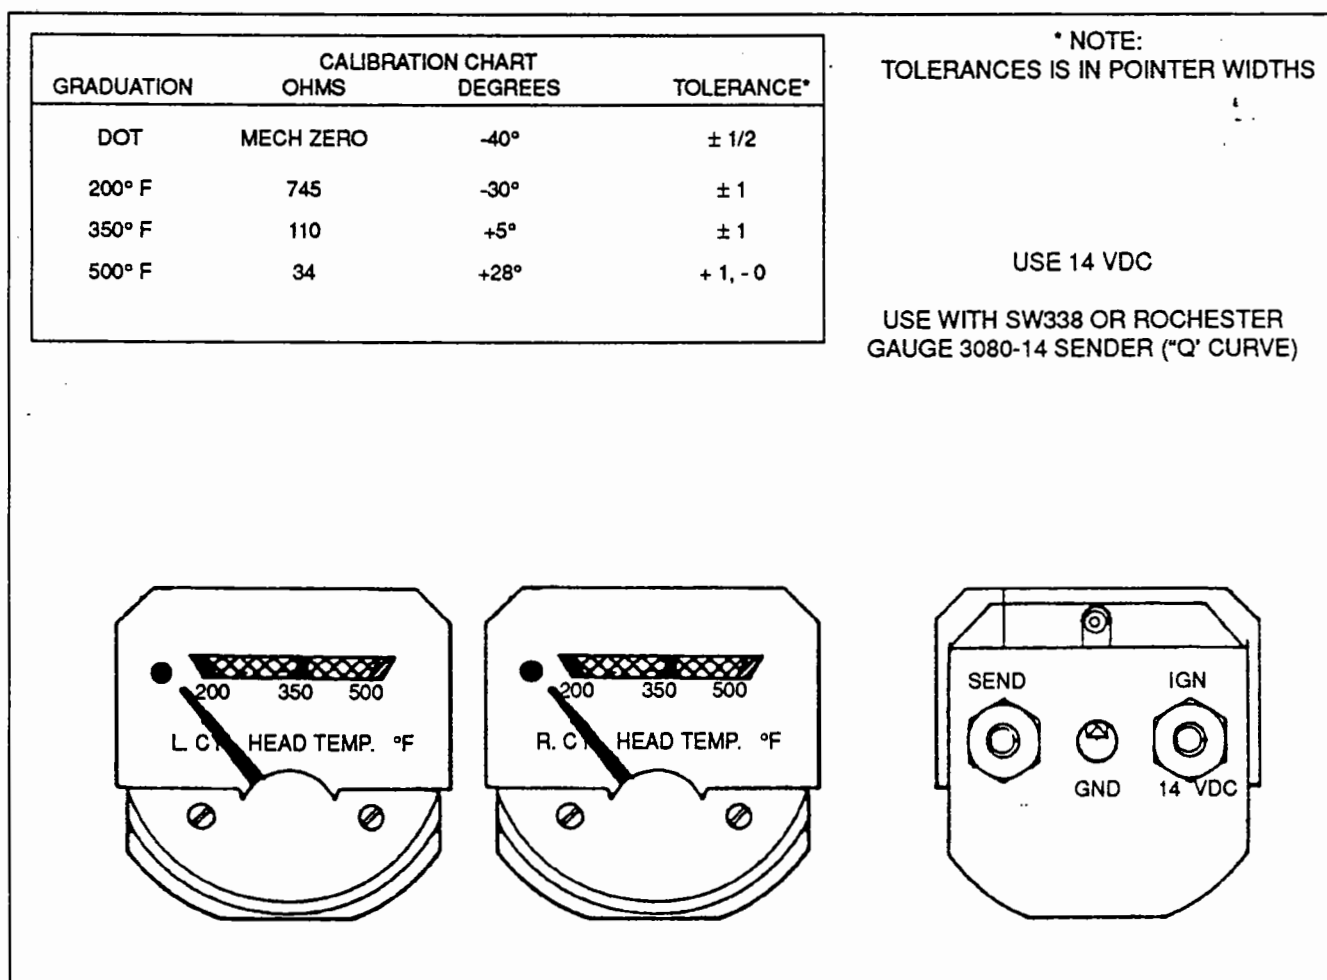

Figure 77-3. Cylinder Head Temperature Calibration (PA-44-180 S/N 44-95001 and up)
1. Install the probe in the exhaust stack. (Refer to Figure 77-3.) Maintaining the 2.75 inch dimension indicated, secure the probe by tightening the jam nut.